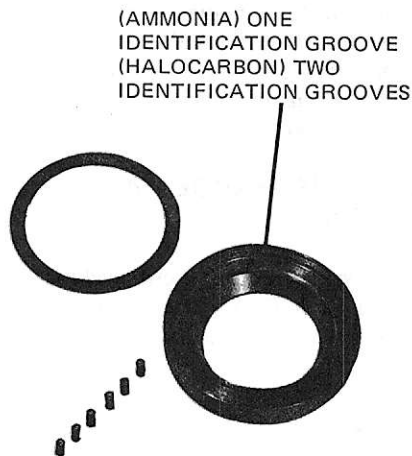

FIG. 21 — SUCTION VALVE PLATE
2. Suction Valve Plate (See Fig. 21) — Valve plate thickness has been increased .020". The valve plate for RW